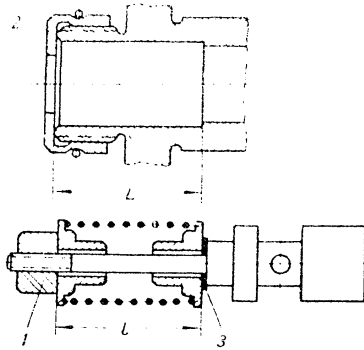
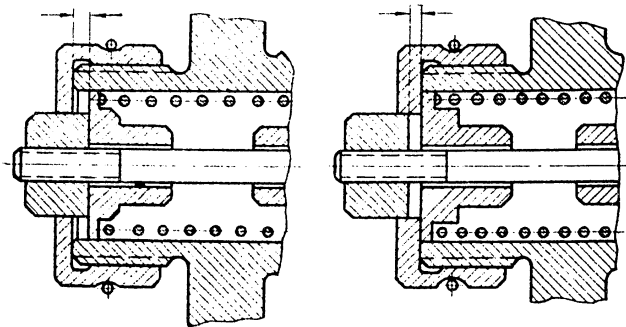

FIG. 86. ADJUSTMENT OF P13M-4 GOVERNOR CORRECTOR
FIG. 87. ADJUSTMENT OF P13M-4 GOVERNOR CORRECTOR
- (b) the most possible precise coincidence of sizes L and ℓ (Fig.86) is obtained by adjusting the position of the slide valve nut. If the slide valve nut is adjusted wrongly, and L is larger than ℓ (the nut is overtightened), then after the corrector body nut is fitted into place, a clearance will be formed between the slide valve complete with springs, the body and its nut (Fig.87). If, however, L is smaller than ℓ (the nut is tightened up insufficiently), the spring will be clamped between the body and its nut, and a clearance will be formed between the slide valve complete with its nut and the spring supports.